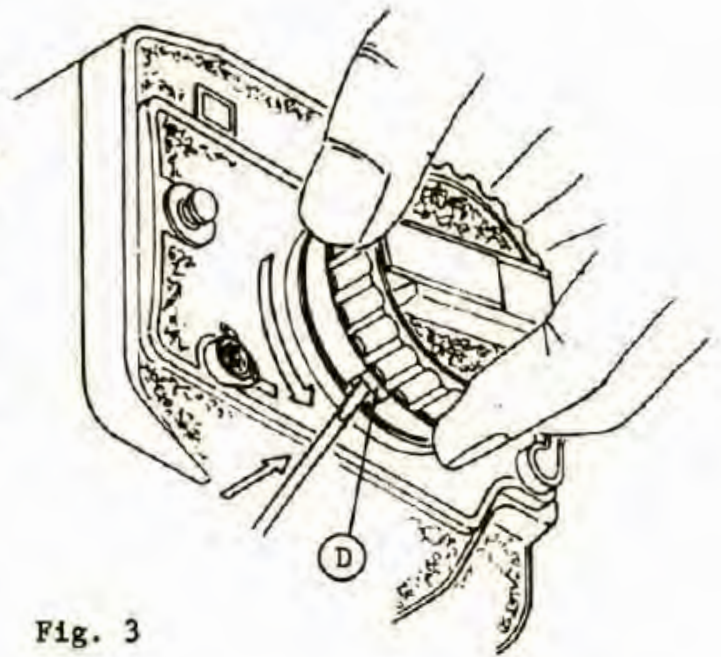

Fig. 3
- 2 While holding the release lever **(D)** of the knob in the UP position with a small screwdriver or suitable tool, rotate knob counterclockwise and it will disengage from camera body as shown in Fig. 3.